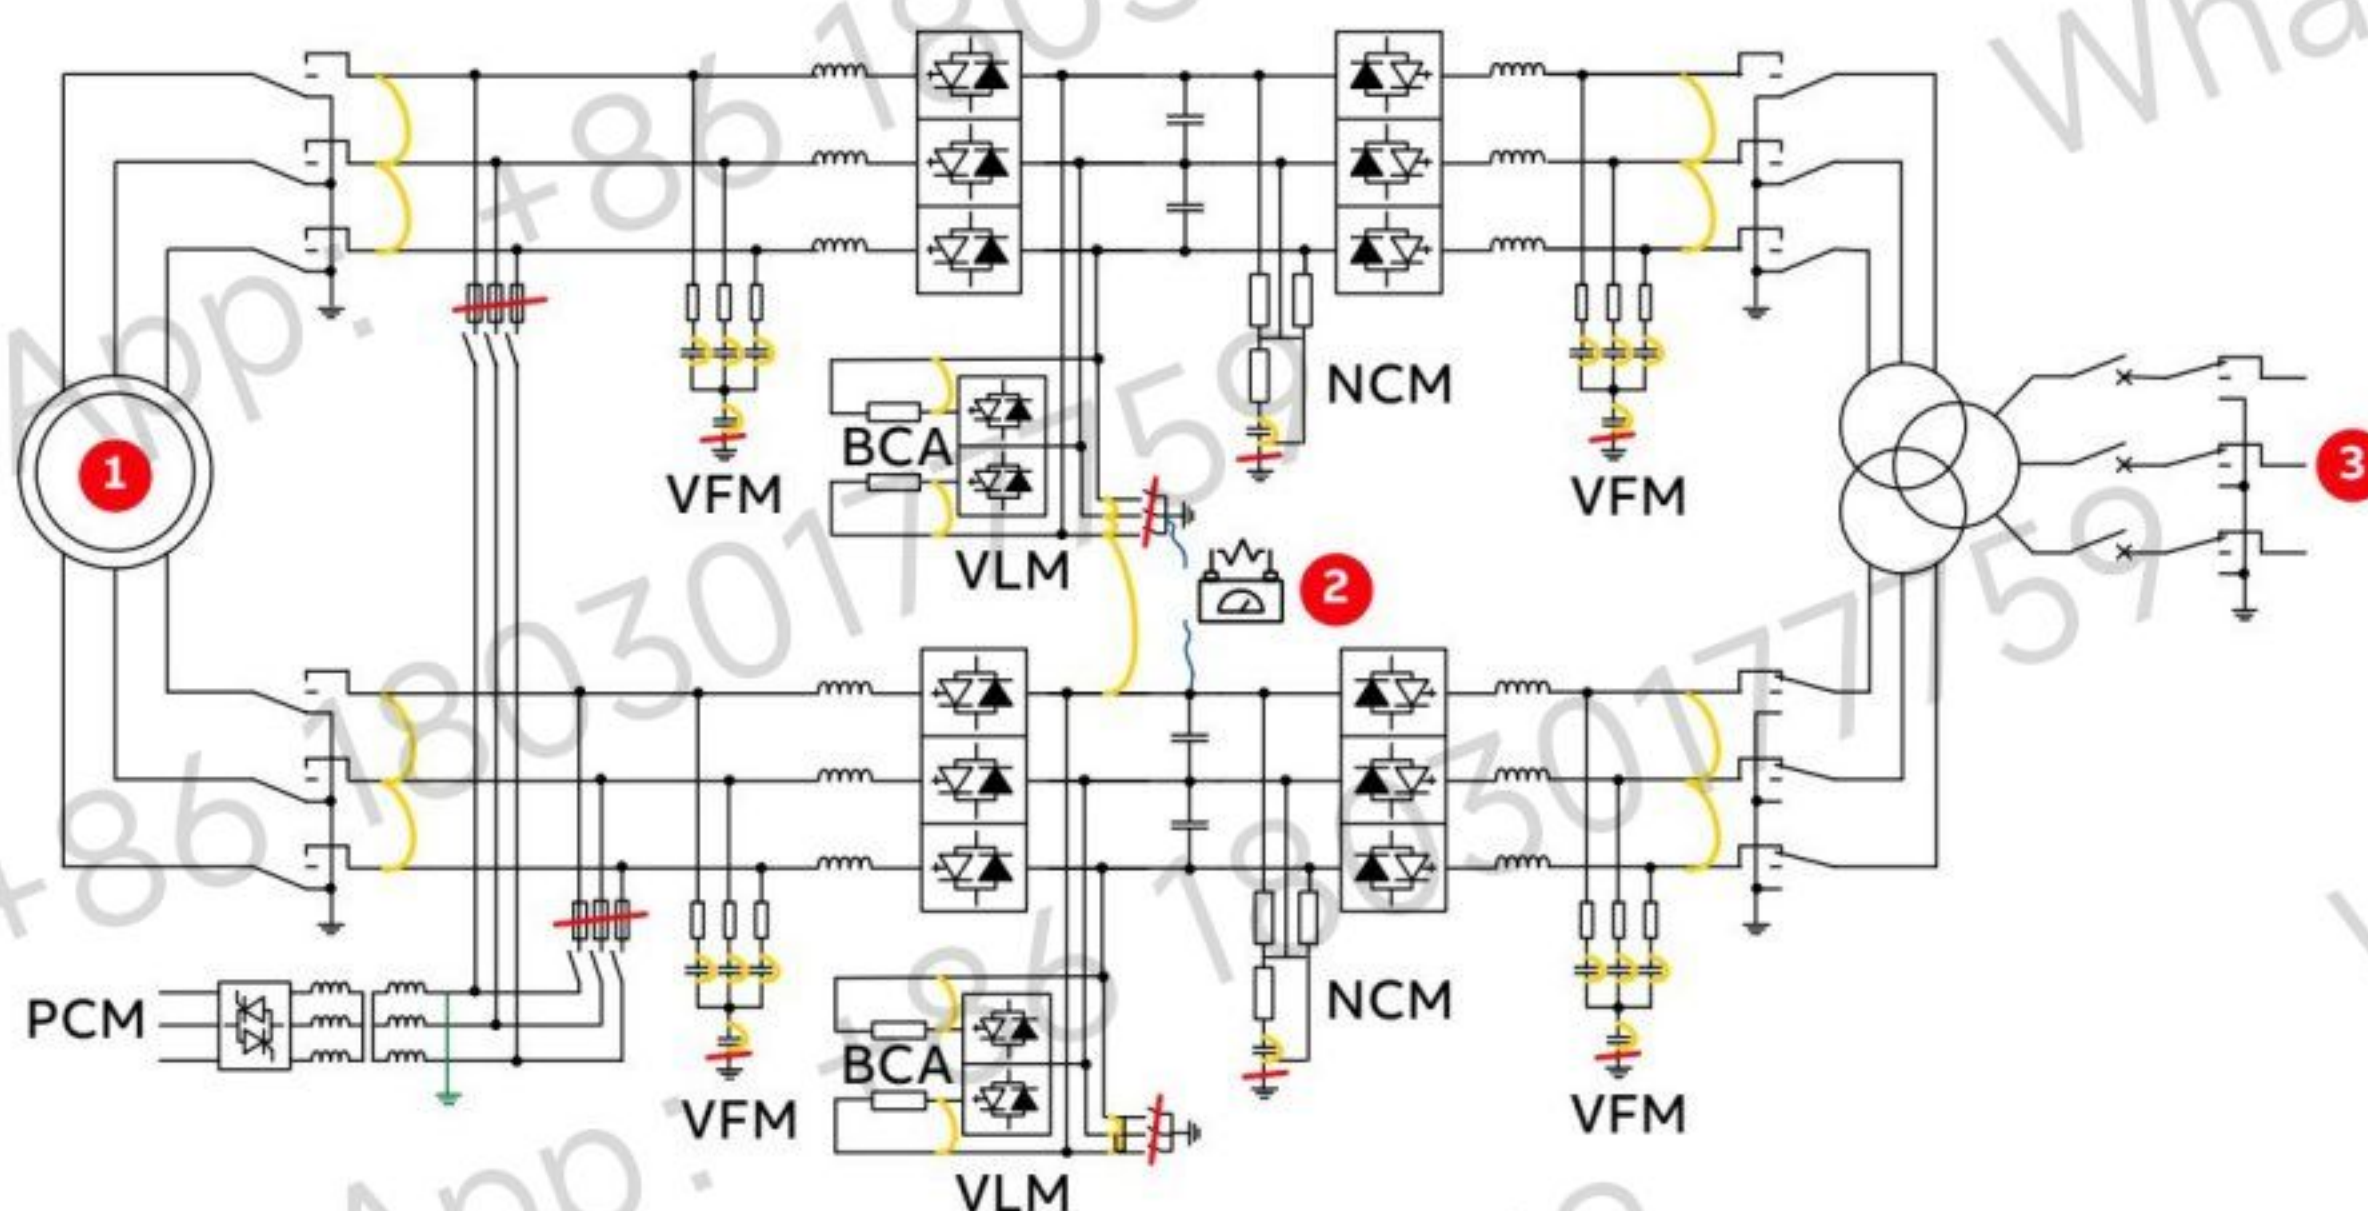

Figure 4–5 Insulation measurements PCS6000 Converter 2CL
6. Apply a test voltage of 2500 VDC between the shortened phases and ground as shown in Fig. 4–5 for at least 1 min.